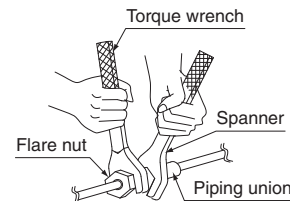

Fig. 3
- (1) Connect the piping.
- When connecting or disconnecting piping to or from the unit, **be sure to use two spanners and two torque wrenches.** (Refer to Fig. 3)